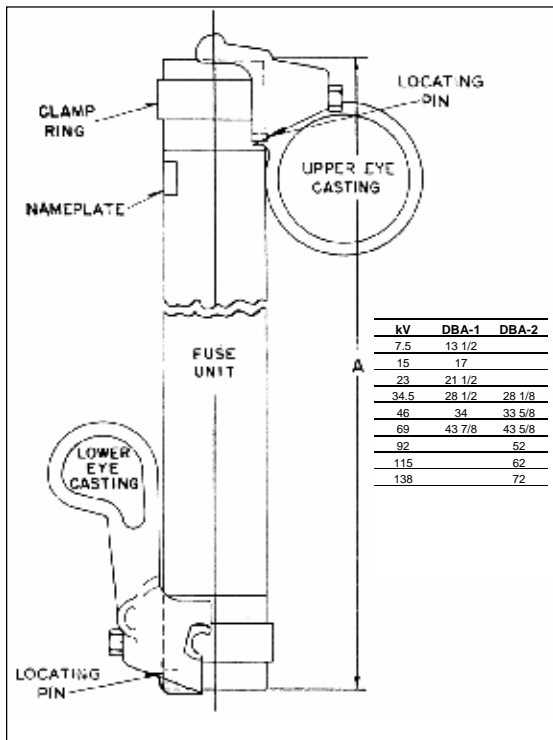

Fig. 1.
1. Remove fuse fittings from hinge casting (Fig. 3) and mount on a suitable fuse unit as shown in Fig. 1.